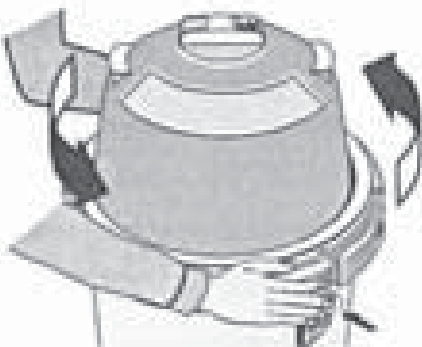

Figure 4
- a. Press safety latch (below the ring) toward the tank to release it (see Figure 4).